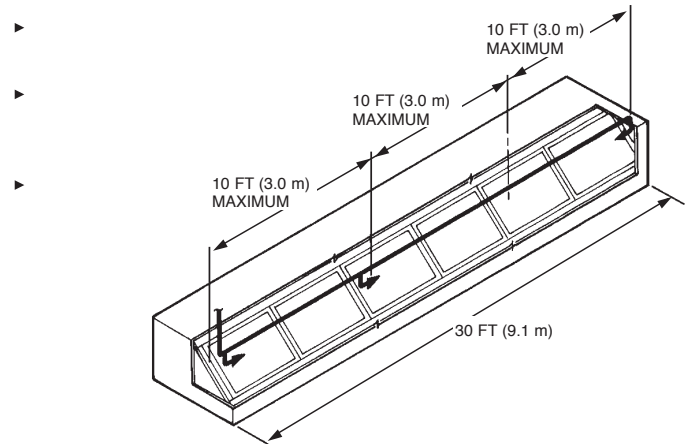
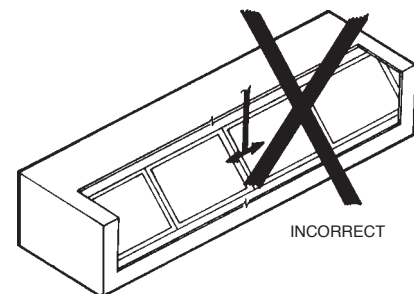

FIGURE 4-13
FIGURE 4-14
- protected, and the 10 ft (3.0 m) limitation is not exceeded. See Figure 4-13. The nozzle positioning shown in Figure 4-14 is not an acceptable method of protection because the plenum area directly under the tee is not within the discharge pattern of either nozzle.